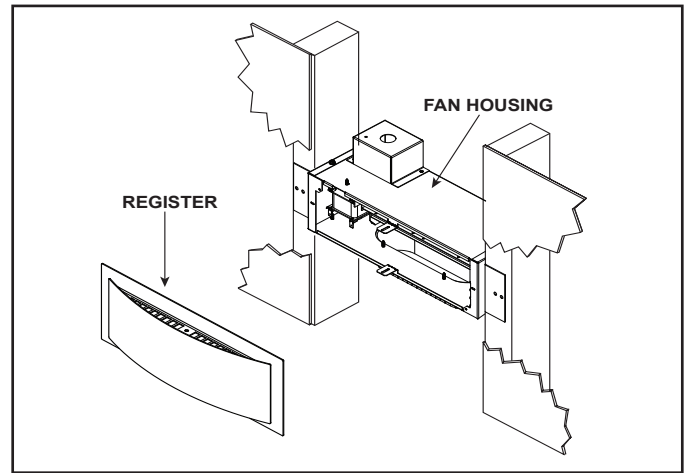

Figure 5.11 Register Attachment
12. Screw the register to the fan housing using tabs and two black screws. See Figure 5.11.